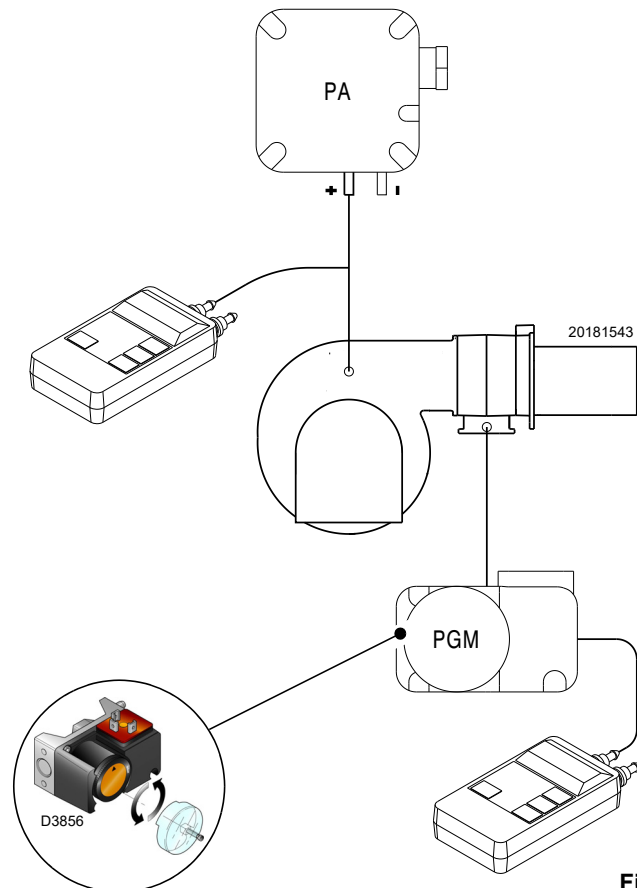

Fig. 51
- adjust the high gas pressure switch to the upper limit of the scale (Fig. 51, page 36);
Adjust the maximum gas pressure switch (Fig. 51) after making all other burner adjustments with the maximum gas pressure switch set to the end of the scale.